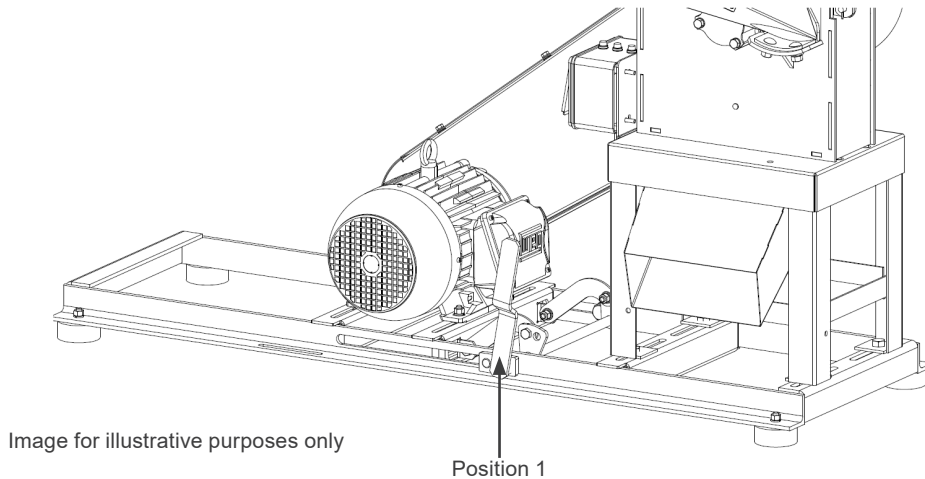
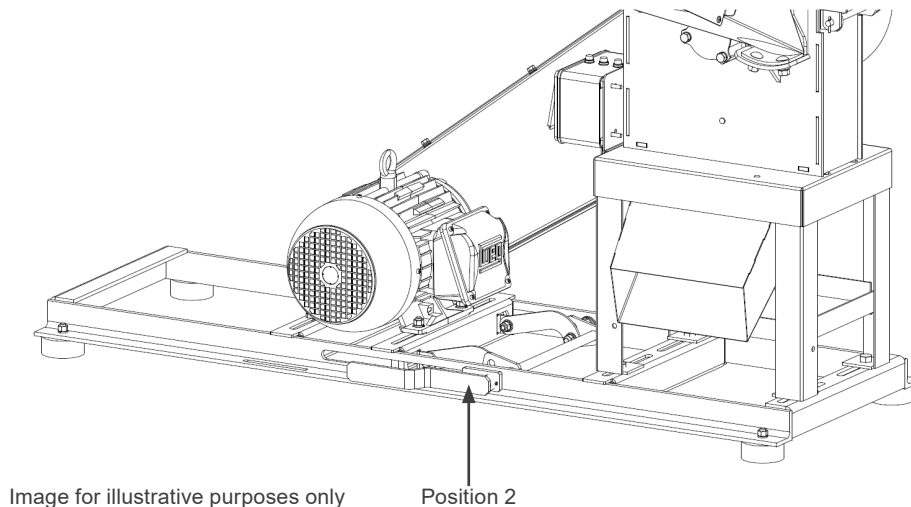

Figure 8.1: Illustrative image of the belt tensioner
Figure 8.2: Illustrative image of the belt tensioner
- Before starting the engine, check that the belt tensioner lever is in position 1 (release), as shown Figure 8.1 on page 138. After starting the engine, push the belt tensioner lever to position 2, as shown in Figure 8.2 on page 138.